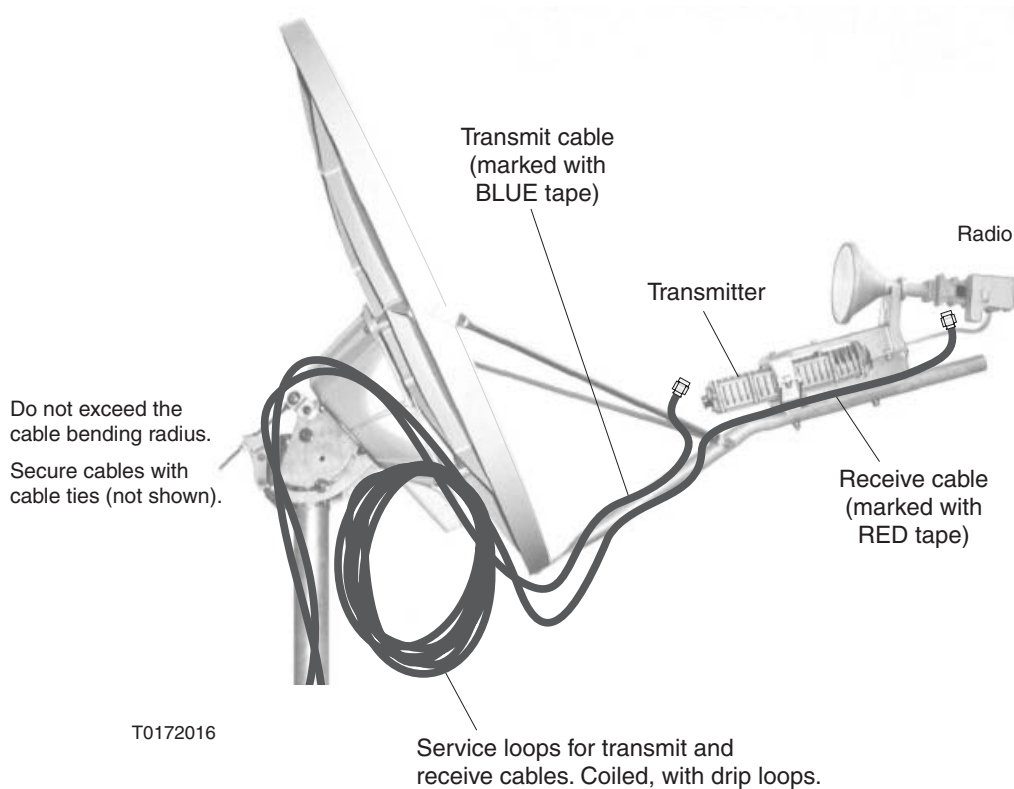

Figure 38: Transmit and receive cable configurations
1. Route the transmit cable (marked with blue electrical tape) over the Az/EI and reflector bracket assembly and behind the reflector to the back of the transmitter, in a configuration similar to that shown in Figure 38.
4. Route the receive cable (marked with red electrical tape) over the Az/EI mount assembly, behind the reflector, and along the feed support tube to the TRIA, in a configuration similar to that shown in Figure 38.